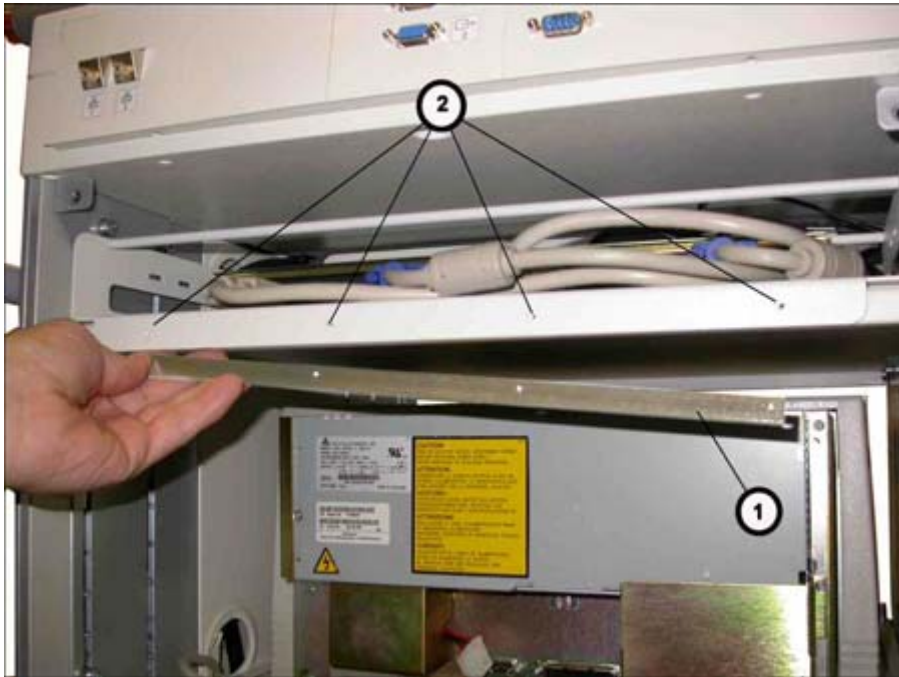

Fig. 11: Installing the Installation Frame
- Secure the installation frame with screws, washers (2/Fig. 11), and the threaded plate 1/Fig. 11, as shown in Fig. 11.